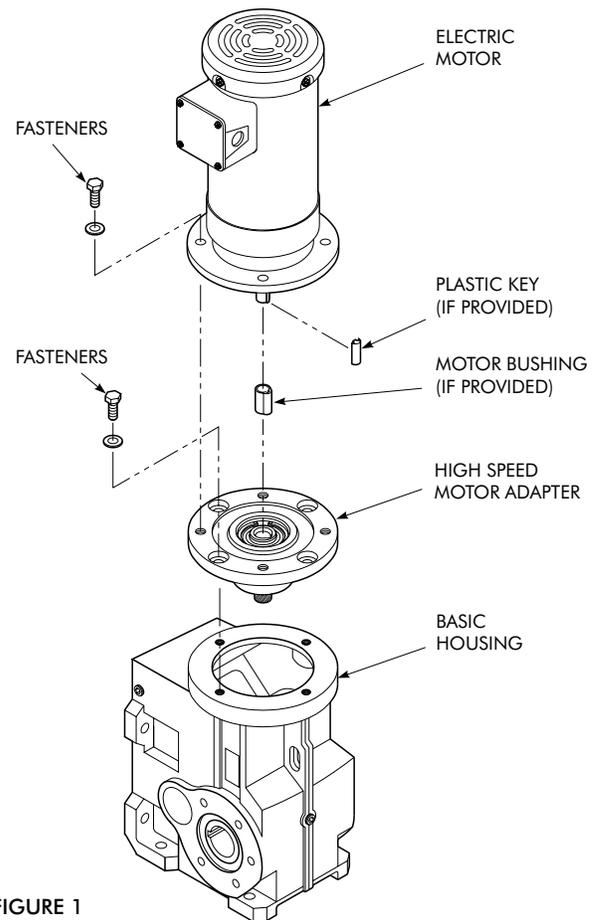

FIGURE 1
#### PROCEDURE G — Figure 1
- Place basic housing on a workbench so that high speed end is facing up as illustrated in Figure 1. If necessary, block housing so that it is stable and level.